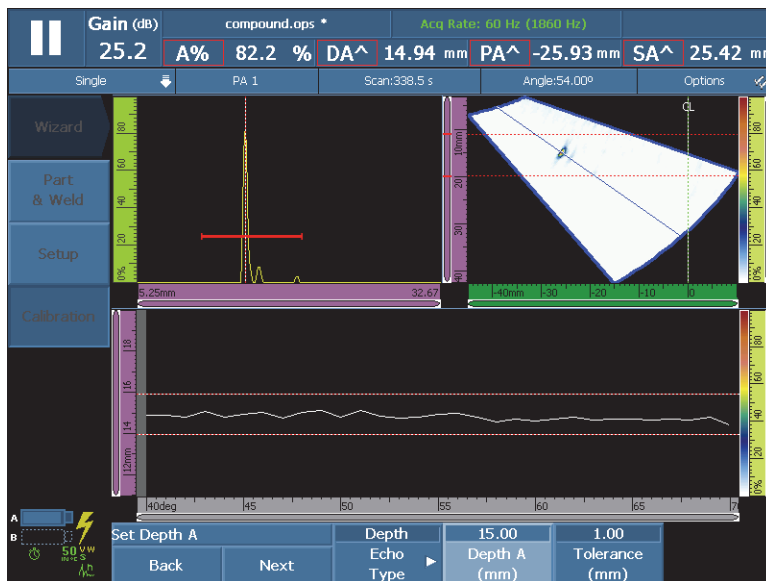

Figure 5-11 Building the envelope for the first angle/VPA
- a) Move the probe forward and backward over the reference reflector to build an envelope (see Figure 5-11 on page 127).